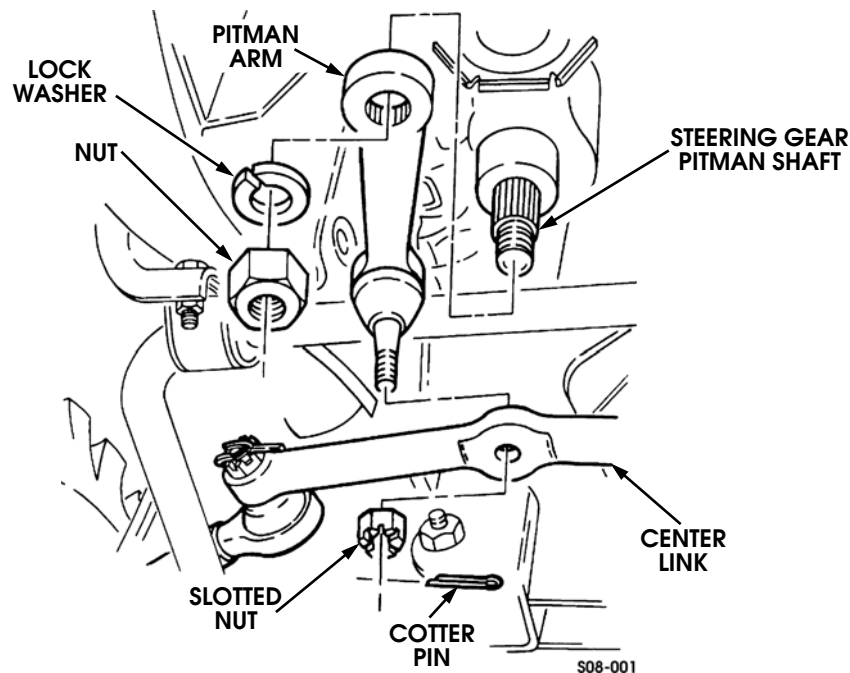

Figure 1: Pitman arm replacement.
2. Remove the nut and lock washer from the steering gear shaft (See Figure 1). Using puller J-42548, remove the pitman arm from the steering gear shaft.